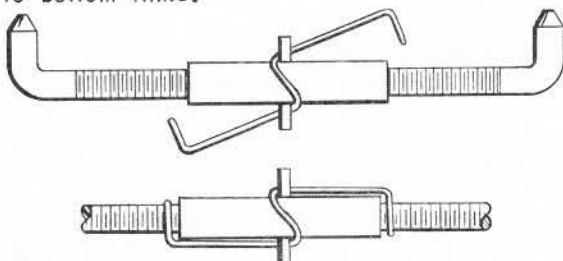

FIG. 2
6. Refer to Fig. 2. Back tractor up to Spader and attach rear of bottom links (E), to pin (F), on Spader and secure with retainer spring attached to bottom links.
7. Refer to Fig. 2. Loop turnbuckle spring over top turnbuckle and around pin as shown in Figure above. Bring ends of turnbuckle spring up and over top links as shown in Fig. 2 above and same as R.H. adjustable lift link removed from 3 pt. hitch. This creates extra tension (drag) so that top link turnbuckle will not get out of adjustment during operation. This spring is not used on heavy duty hitches.